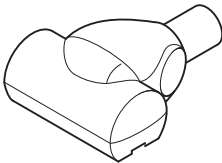

Fig. 6
- **Mini-turbo brush (optional) (Fig. 6)**